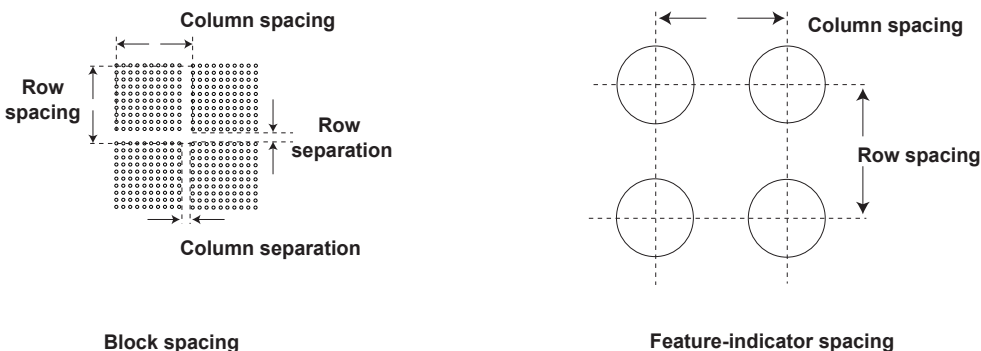

Figure 3. Block and feature-indicator spacing.
- To determine the position of the blocks, specify the distance between them (see Figure 3). If you do not have these distances from your array manufacturer or spotter, you can measure these distances directly from the array image using the X and Y coordinates reported in the Feature Viewer.
- Specify the layout of the individual feature-indicators in each block (see Figure 3).